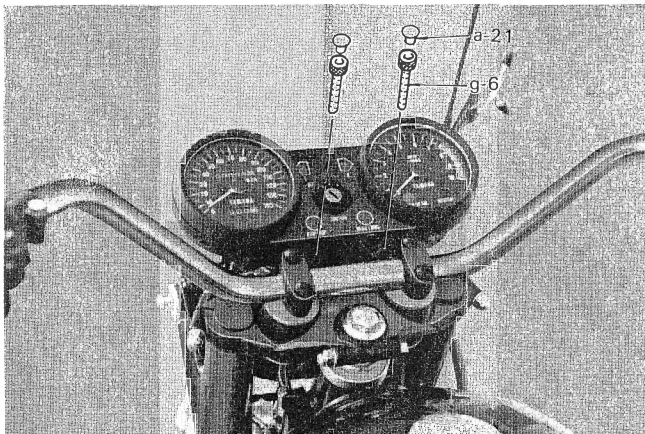

Fig. 21
17. Install the meter panel assembly (k) on the handle crown using the two hexagon socket head bolts (g-6) and bolts caps (a-21) contained in the vinyl bag. Before securing the meter panel assembly, all wires should be threaded through the head lamp body grommet. (Fig. 21)